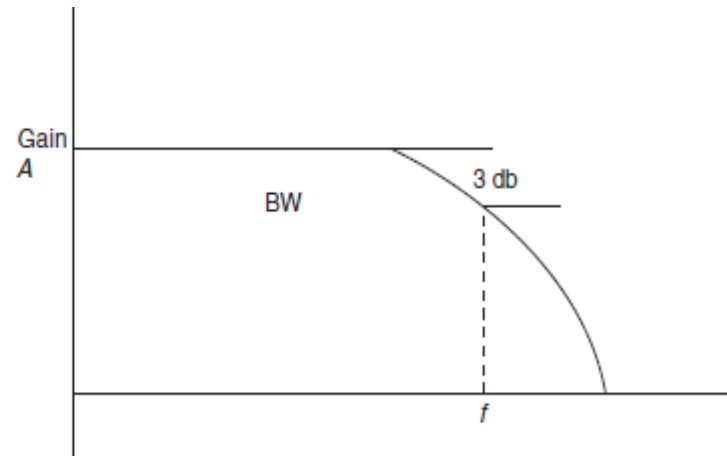

Figure 14-8 Frequency response graphs
- The bandwidth of an oscilloscope is the range of frequencies over which the gain of the vertical amplifier stays within 3 db of the mid-band frequency gain, as shown in Fig. 14-8.